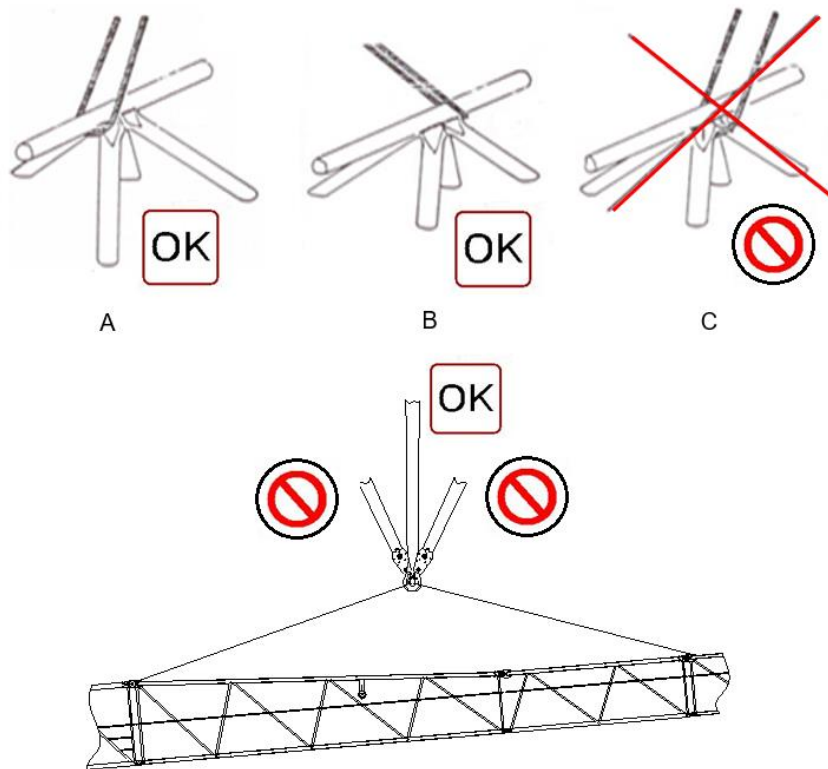

Fig. 4-34 Notice about hoisting jib
- Hoisting jib by rope, see Fig. 4-34, the methods of A, B, D are right, while the methods of C is wrong.
- Forbid pulling aslant when hoisting jib assembly, see Fig. 4-34.